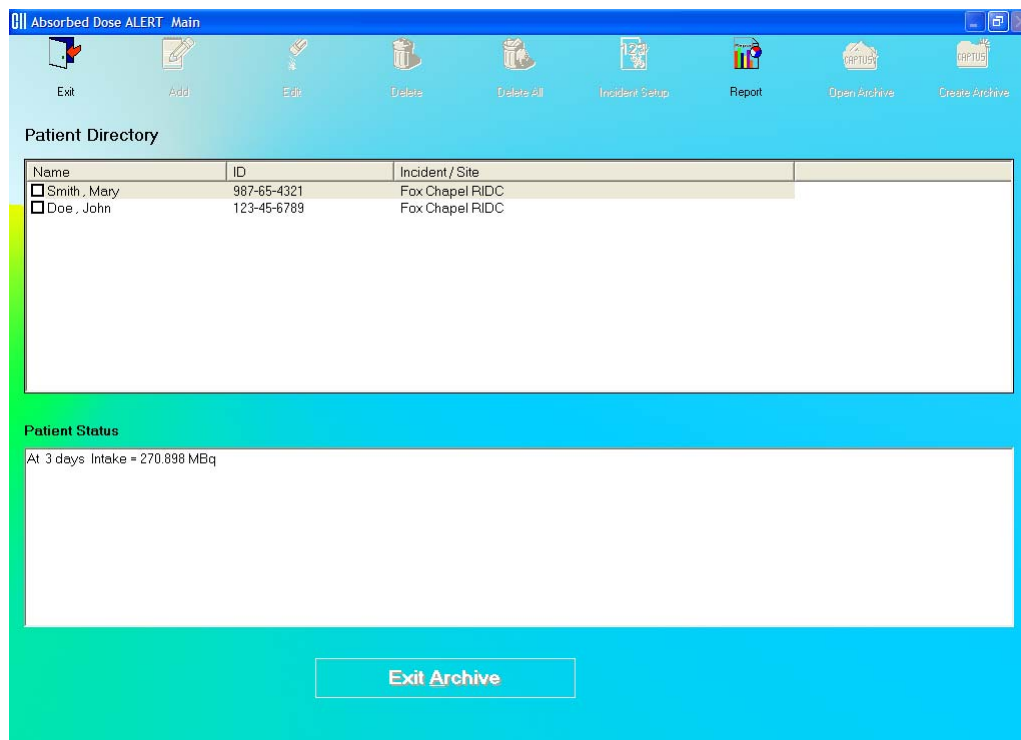

Figure 9-32
2. Select the desired database and click the  button. The Absorbed Dose ALERT Main Screen will appear similar to that shown in Figure 9-32 with the patient list from the opened database displayed.